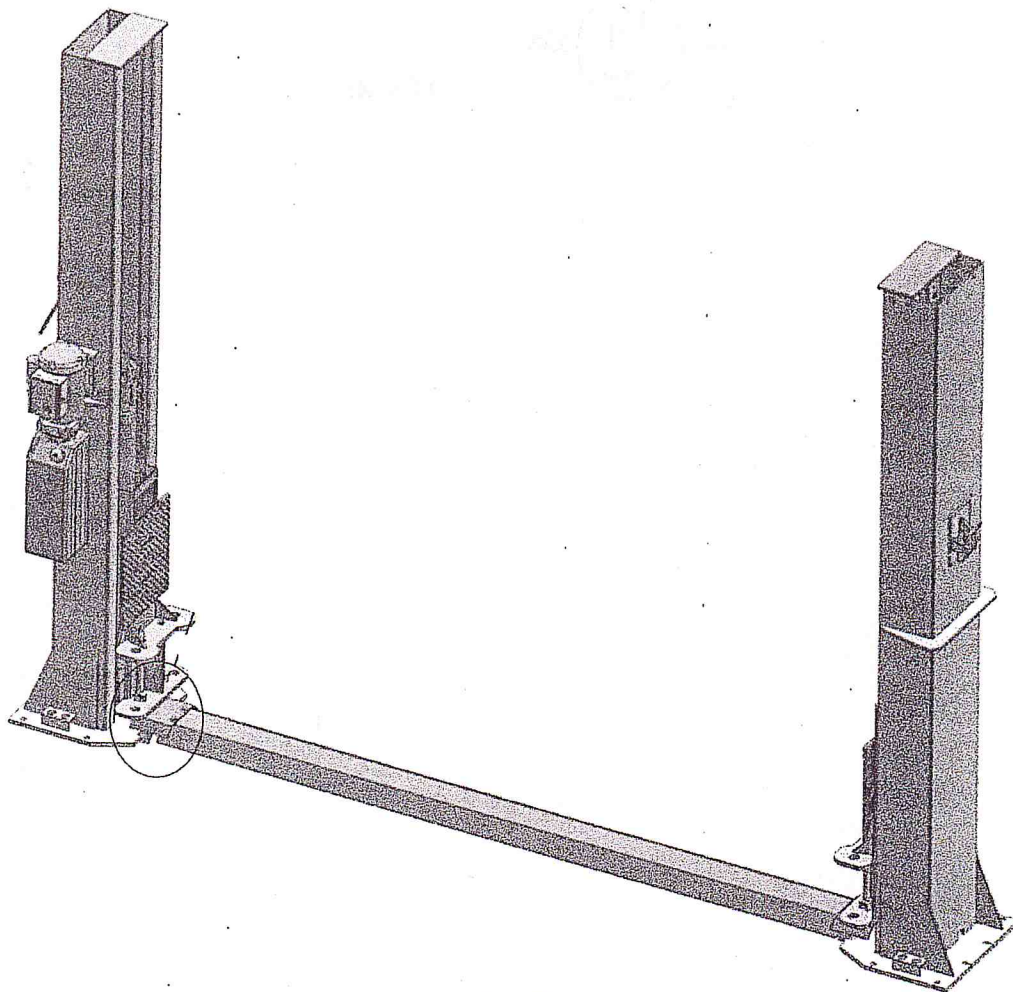

Fig. 24
L. Install floor cover (See Fig. 24).